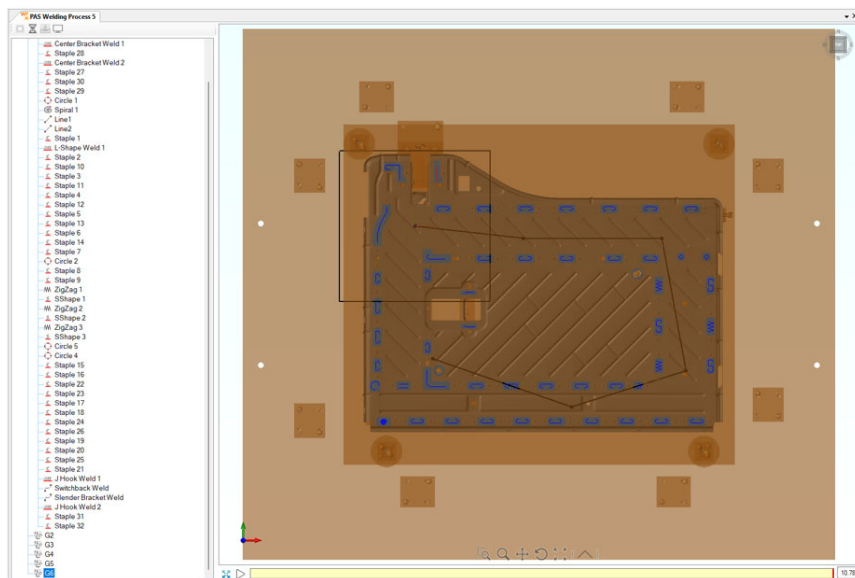

Figure 342: Groups Placed Across the Part
- For this example, it took 6 Groups to encompass all the welds across the part. See Figure 342 (below).